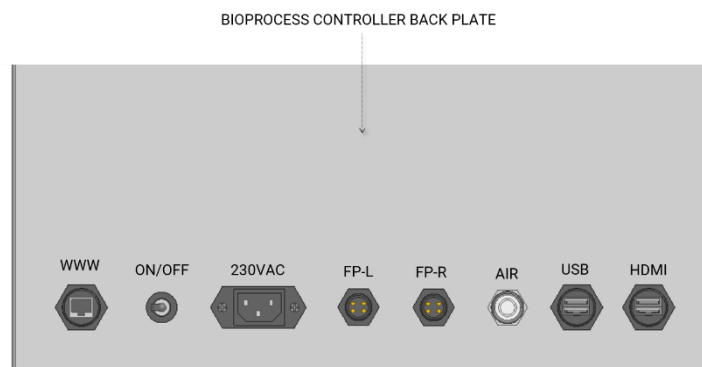

Figure 0.8. Air and oxygen service connections (back of the control unit control unit)
The service connections for the bioreactor system can be found on the rear side of the control unit (see Figure 0.8). By using the supplied hoses and quick connections connect the air supply line, with operation parameters not exceeding the defined maximal values as shown in Table 0.1 to the designated port.
- 1) Turn on the controller by moving the **ON/OFF** switch at the rear side of the control unit (see Figure 0.8);